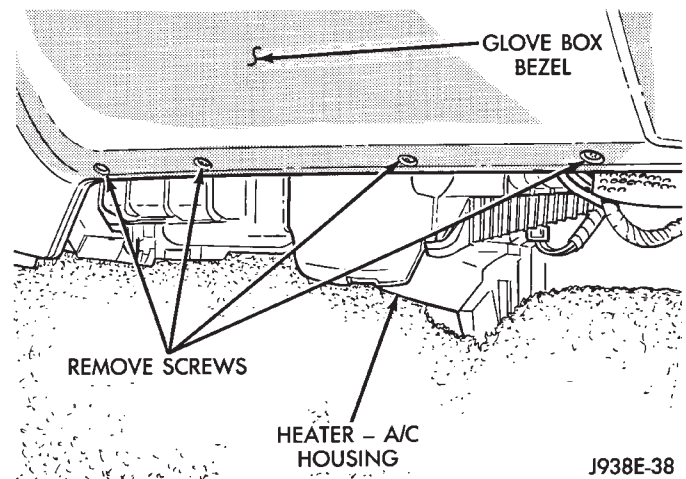

Fig. 5 Right Side Bezel Attaching Screws
- (11) Remove dash pad prying gently on each end to unsnap end clips.
- (12) Remove 4 screws from bottom of glove box bezel (Fig. 5).